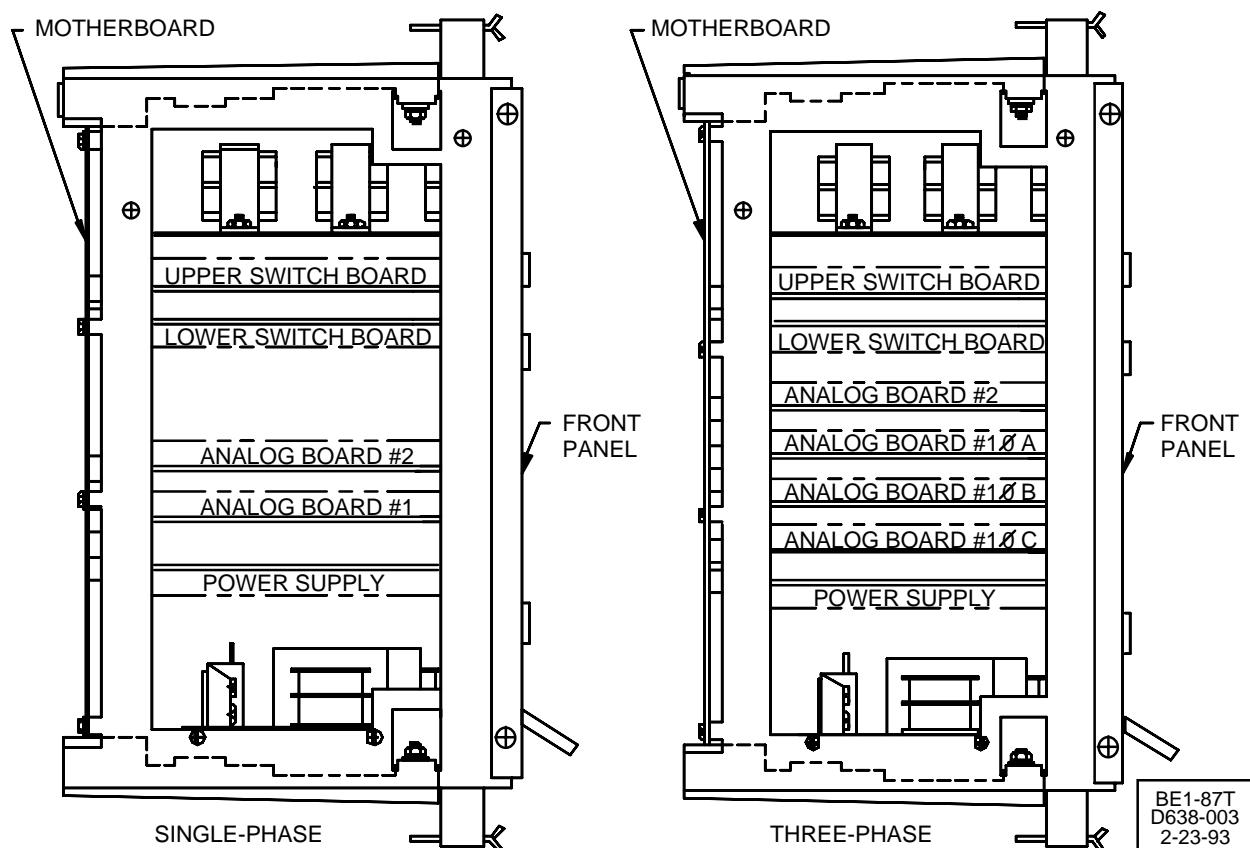

Figure 4-19. Side View of Cradle Assembly
The following procedures require the removal and handling of the internal printed circuit boards. Figure 4-19 shows the location of major components and assemblies. Because some of the components are vulnerable to electrostatic charge, the following precautions should be observed.
**Step 2.** Withdraw the cradle assembly (see Figure 4-19).
Disabling unused inputs requires disassembly of the relay and must be done when the relay has been taken out of service. Access to the input-disabling jumpers requires the removal of the Analog #1 Board, shown in Figure 4-19. To avoid personal injury or equipment damage, do **NOT** proceed unless thoroughly familiar with the instructions in sections **RELAY OPERATING PRECAUTIONS** and **RELAY DISASSEMBLY: Precautions**.